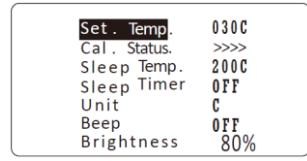

Fig.6
3.2. When Cal. status display ">>>" (see Fig 6.), it means "Real Temp." has calibrated and increase temperature.